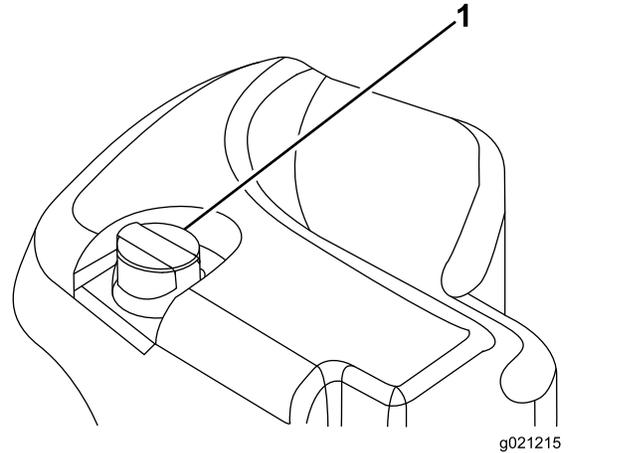

Figure 31
2. Clean the area around filler neck and cap of the hydraulic tank (Figure 31). Remove the cap from the filler neck.